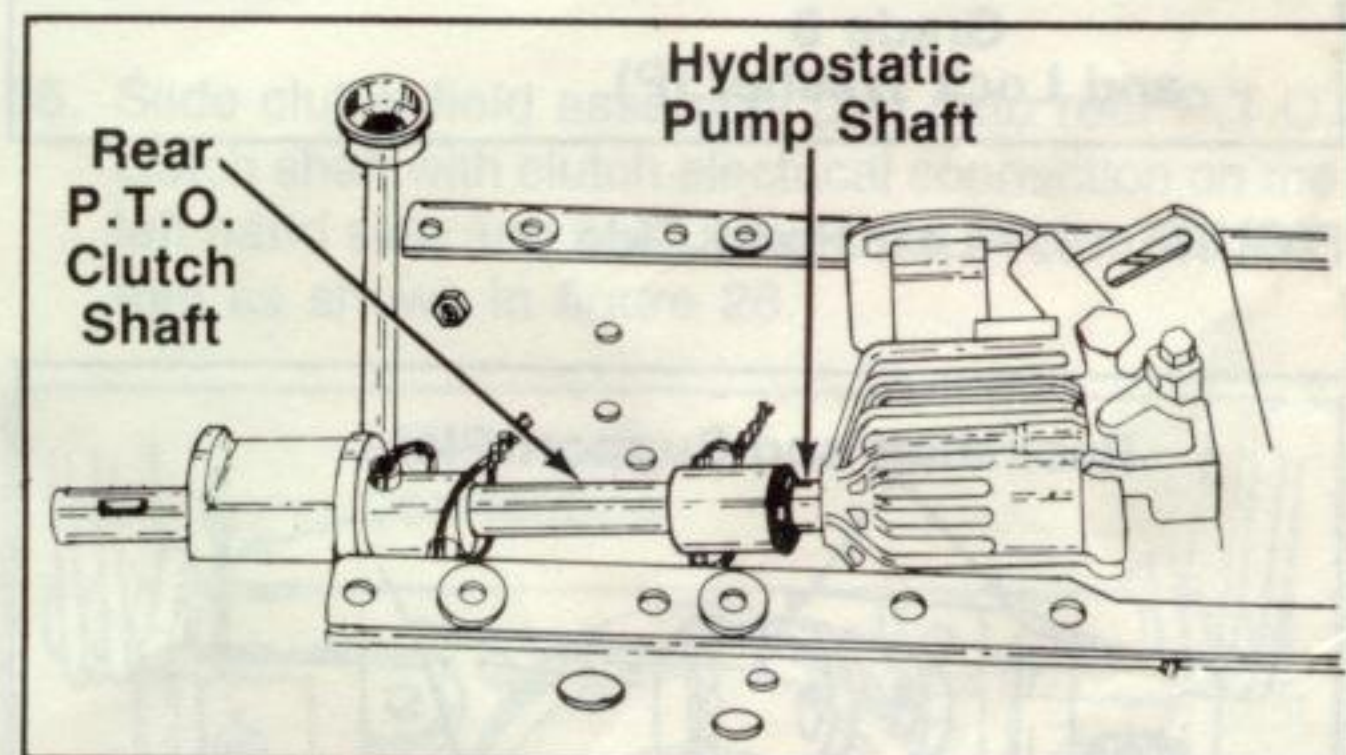

FIGURE 17.
28. Install the rear P.T.O. clutch shaft, slide splined end over shaft on hydrostatic pump and using hex bolts (AB), (AC) and lock washers (AN) secure to top of transmission case. See figures 17 and 18.